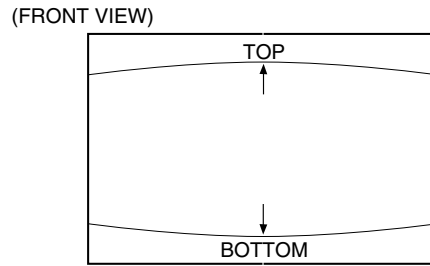

Fig. 8
1. Move the deflection yoke up and down to adjust the pin cushion distortion in the screen top and bottom. (Fig. 8)